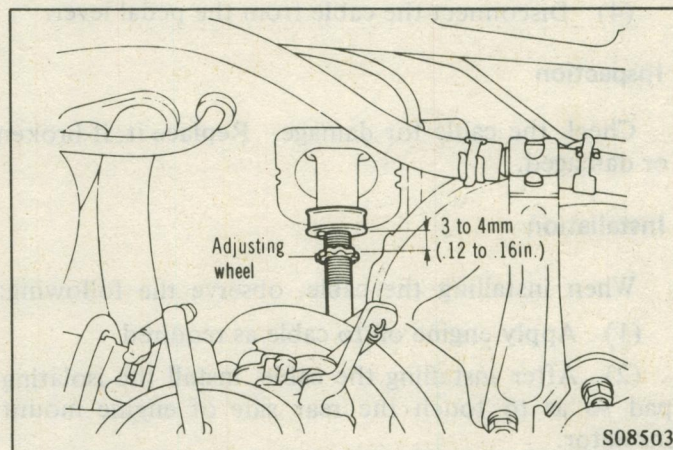

Fig. 4 Adjusting the Pedal Free Play
(2) Draw out cable slightly to engine compartment side and set the clearance between the adjusting wheel and insulator to the standard value by turning the adjusting wheel. (Fig. 4)
(3) Check to see if the pedal free play is within the standard value.